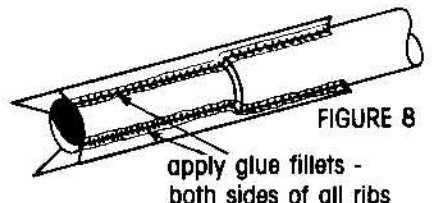

FIGURE 8
Make Ribs(17) by carefully cutting out Main Stage Rib pattern (page 3) using a sharp knife and straight edge. Glue pattern on cardboard in kit with longest edge even with edge of board. Carefully cut board along pattern lines. Use this Rib to cut three more ribs. Stack ribs to check that all are the same as the pattern. Trim and sand if necessary. Apply white glue to the inside edge of a Rib and attach it to the Tube Assembly next to one of the lines drawn on the Engine Tube(18). Allow glue to set and repeat for the other three Ribs. When all are dry, apply glue fillets and allow to dry completely (fig. 8).